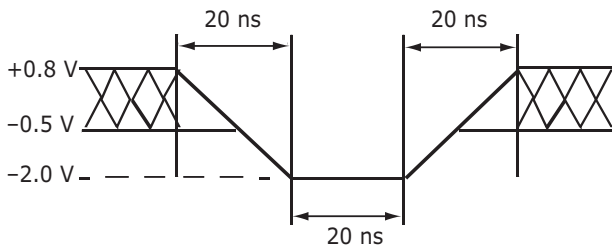

Figure 8. Maximum Negative Overshoot Waveform
2. Minimum DC voltage on pins ACC, A9, OE#, and RESET# is -0.5 V. During voltage transitions, A9, OE#, and RESET# may overshoot V_{SS} to -2.0 V for periods of up to 20 ns. See Figure 8. Maximum DC input voltage on pin A9 and OE# is +13.0 V which may overshoot to 14.0 V for periods up to 20 ns.